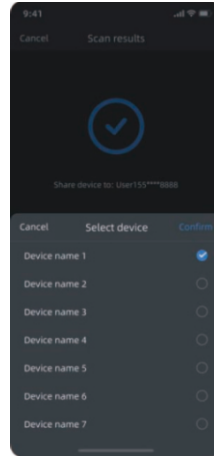

Figure 4
4) Figure 4: When there are multiple devices under your name, you can select the device you want to share in the **"Select device"** pop-up window.